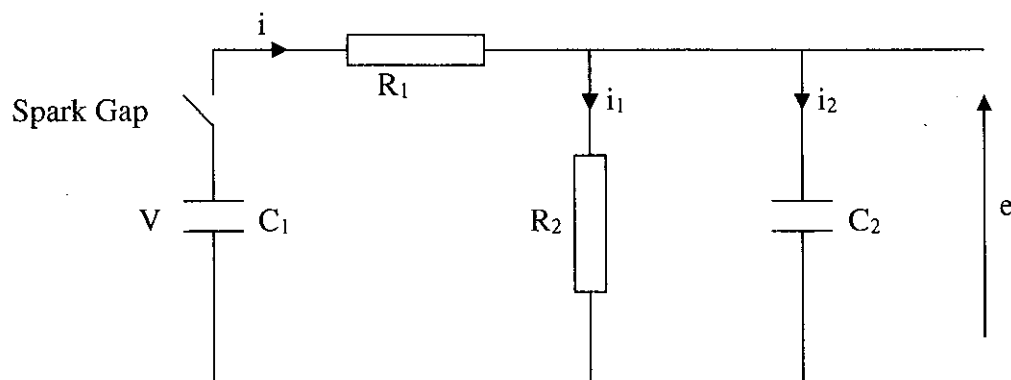

Figure Q3
- d) Show that the circuit shown in figure Q3 can be utilized to generate impulse wave form